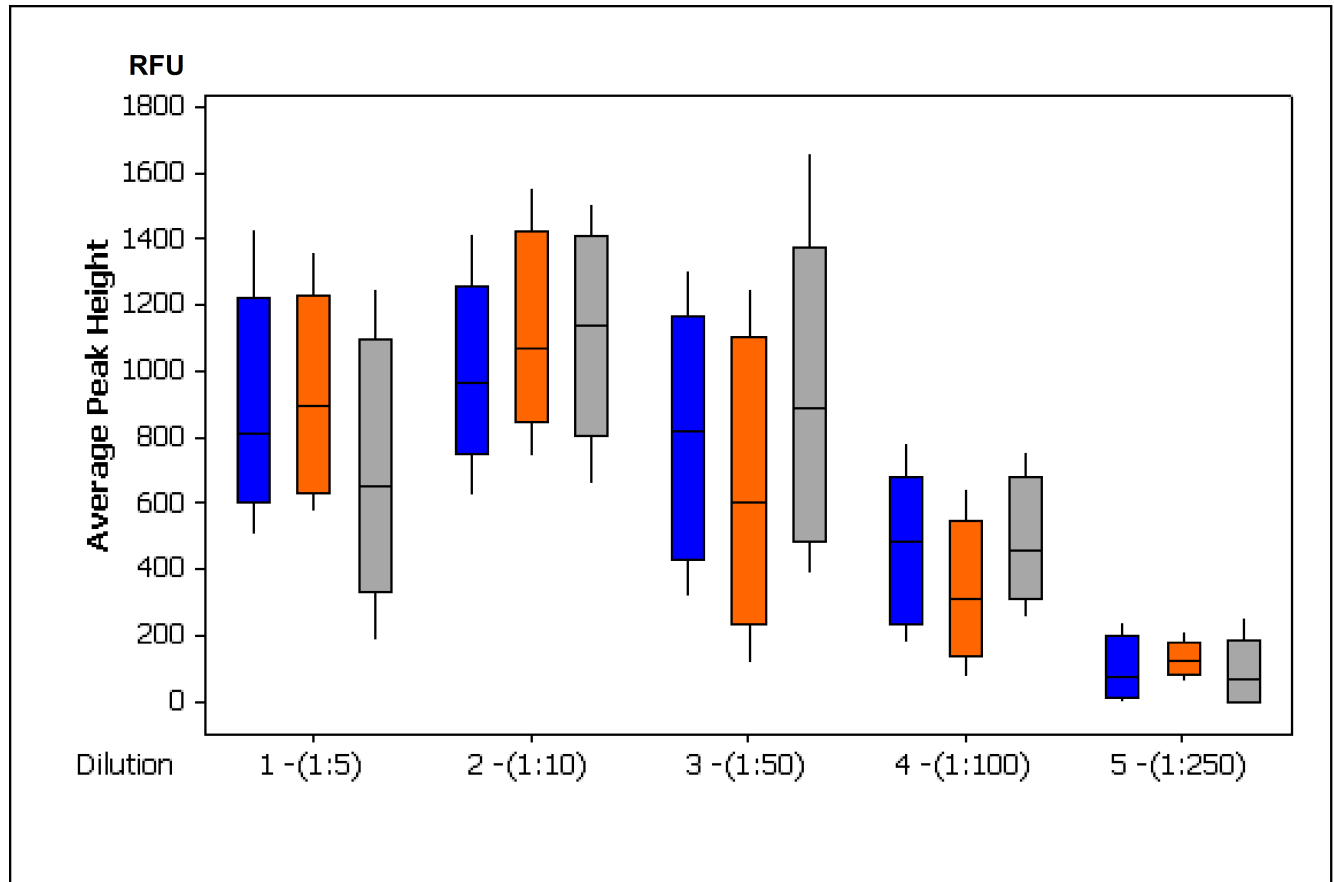

Figure 23 HID EVOLution™ —Extraction System—Average peak heights from AmpFℓSTR™ Identifiler™ PCR Amplification Kit STR profile
- DNA concentration results are shown in Table 20 and Figure 23 on page 119